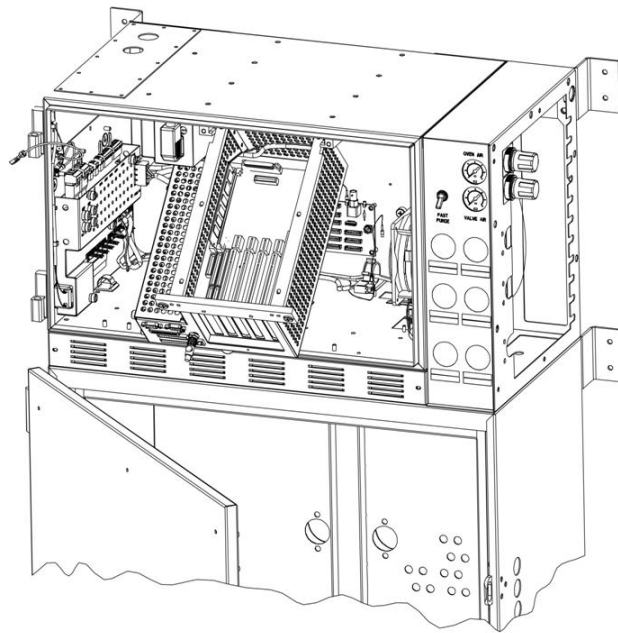

**Figure 4-3: Accessing/Removing Motherboard (Original SYSCON is Shown)**
The following procedures should be followed for removal and installation of SYSCON and the installed motherboard. Components to be removed to access the motherboard are shown in Figure 4-3 and 4-4.
5.	Install the expansion board in the appropriate SYSCON motherboard expansion slot. Be certain the board is properly seated in its connector and screw it into the mounting chassis. Refer to Figure 4-3.